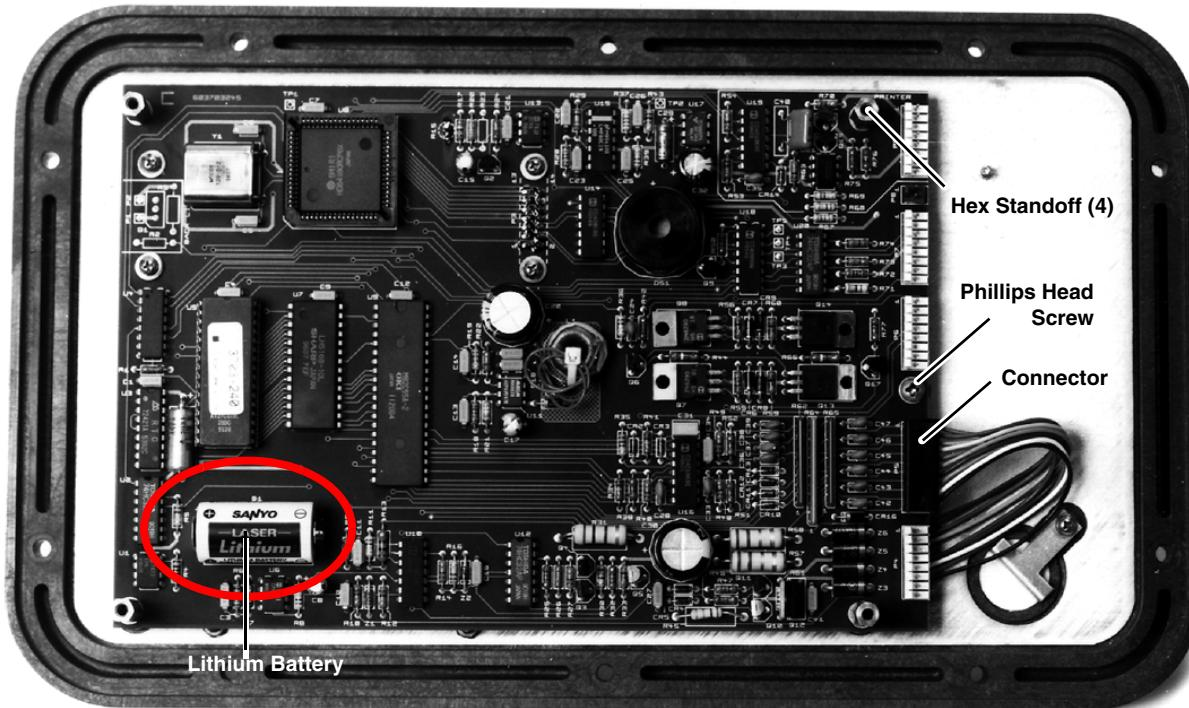

Figure 6-9 Main Circuit Board
4. The main circuit board assembly of the 3700 Sampler is protected by an aluminum shield. To remove this shield, unscrew the stop nut that holds the short grounding strap and unscrew the four screws located in each corner of the shield. Lifting the shield off will then reveal the main circuit board shown in Figure 6-9.
5. To remove the circuit board assembly from the control box cover, unscrew the four hex threaded standoffs and the phillips head screw, indicated in Figure 6-9. The circuit board may now be pulled away from the control box cover.
6. To completely disconnect the circuit board assembly from the cover, disconnect the connector shown in Figure 6-9.